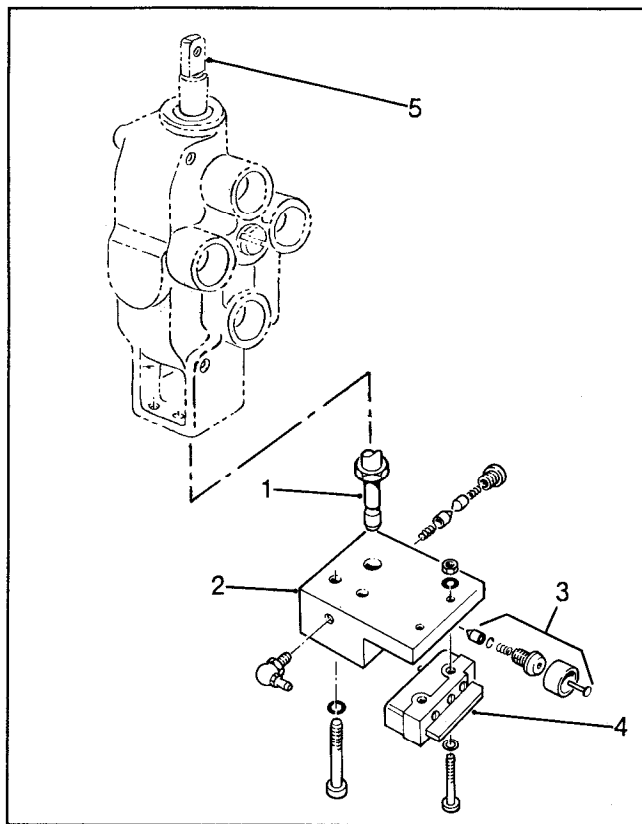

Figure 2
3. Apply Loctite 242 to threads of new spool extension and thread into valve spool until it bottoms out (Fig.2).
4. Pack hole in detent block for spool extension with grease (Mobilith), slip detent block onto spool extension and secure block to bottom of valve body with (2) machine screws and lockwashers (Fig. 2).
6. Mount micro switch to detent block with (2) machine screws, plain washers, lockwashers and nuts (Fig. 2).
10. Mount and secure hydraulic lines and connect link to top of spool end with clevis pin, (2) washers and cotter pin (Fig. 2).